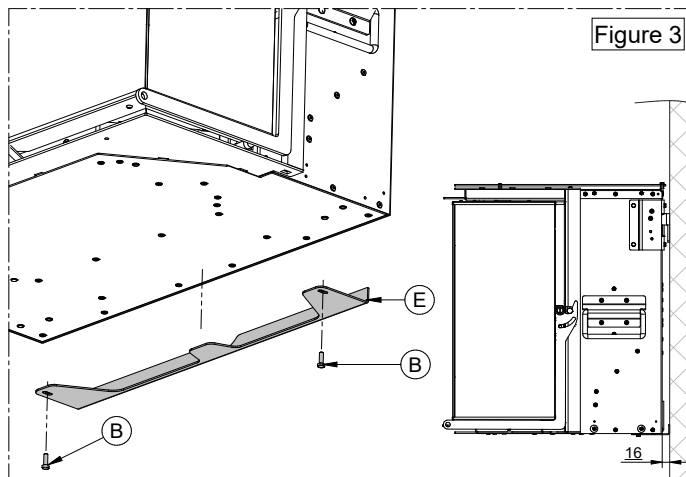
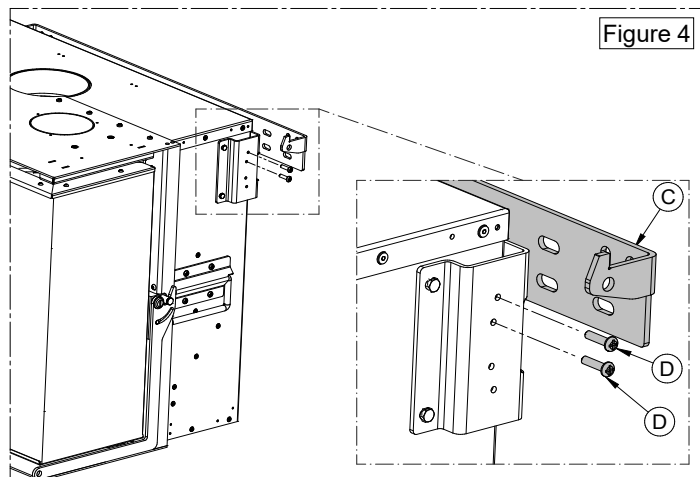

Figure 3
Figure 4
- Remove the blocks I using the screws L (Figure 3). Remove the parts M, N, O and Q using the screws P (Figure 4).
- 4) Tighten bolt (L) until the smoke channel is firmly and tightly secured to the insert's exhaust pipe, see Figures 4 and 5. Then reassemble the previously removed cast irons.
- 3) Run the switch cable (L) through the conduit until it comes out at the front. Connect the wires in the order shown to the switch connectors and then push it into its housing, see Figure (3).
- 4) Withdraw the power cable (M) of the fan from the appliance by running it through the rear hole (A) and connect it to the 230V - 50Hz power supply, see Figure 4.
- 3) Assemble the bracket E with the screws B, ensuring a distance of approximately 16 mm between the end of the bracket and the back of the insert, see Figure 3.
- 4) Hang the insert on the bracket C, fixed to the wall. Secure the insert to the bracket on both sides, first with the upper screw D to prevent the insert from sliding forward, and then with the lower screw D to block it in place, see Figure 4.
- 3) Remove the frame A by loosening the screws B and the handles X, loosening the screws Z, see Figure 3.
- 4) Fit the side profiles C and the top profile D using the screws E, see Figure 4.